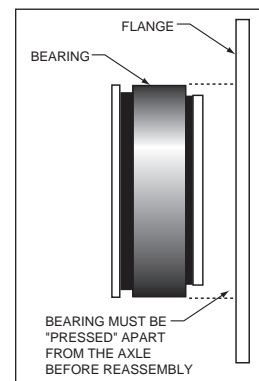

Figure 6.
Completely disassemble the stock brake system down to the bare axle. The stock bearing must be "pressed" off from the axle. Discard the original bearing and flange. Degrease and remove any dings or burrs on the axle which may interfere with the brake assembly. A new "Green" non-adjustable bearing and seal kit (purchased separately) must be pressed onto the axle. The flange must be "pressed" off of the bearing, Figure 6. **The Wilwood caliper mounting bracket (1) has been designed to replace the original flange and fit over the new bearing.** Insert the axle into the rear end housing and secure.